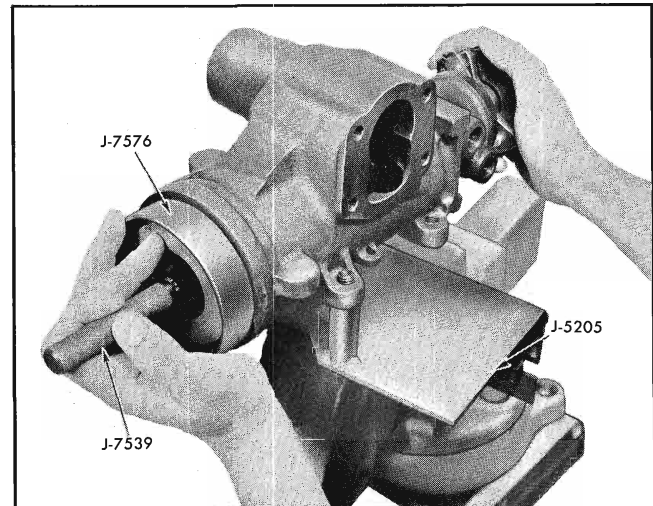

Fig. 9A-33 Installing Rack—Piston Nut
2. Holding Teflon ring compressor sleeve tool J-7576 tightly against the shoulder of gear housing insert the rack-piston nut and arbor into housing holding the arbor (tool J-7539) until arbor contacts worm end. See Fig. 9A-33.